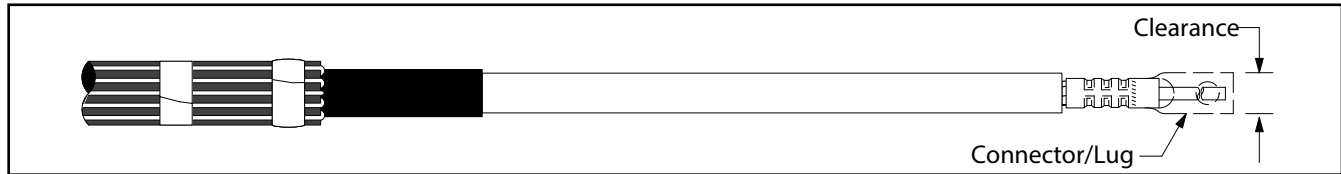

Figure 9
- 7.1 Check to insure 3M™ Cold Shrink QT-III Silicone Rubber Termination assembly fits over the selected lug or connector. If lug or connector (Figure 9) will not fit through the termination core, clean the insulation (per Step 8.0) and slide termination on cable before installing lug or connector. **DO NOT REMOVE CORE AT THIS TIME.**